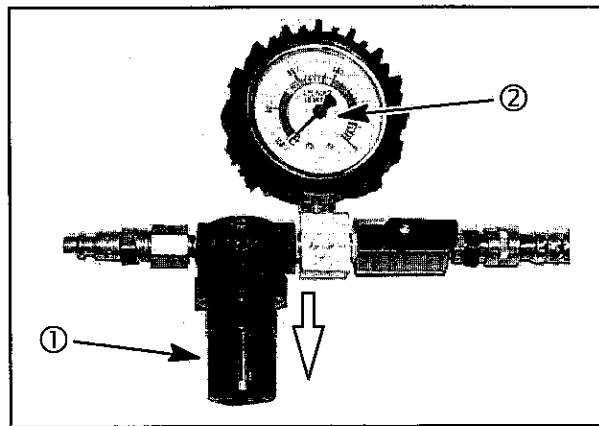

Fig. 4
7. While securely holding the flywheel nut with the breaker bar and socket, pull the adjustment knob **OUT** (arrow), **Fig. 4**. Slowly turn the regulator adjustment knob (1) **CLOCKWISE** until tester needle (2) is on the set point. Push in regulator adjustment knob.